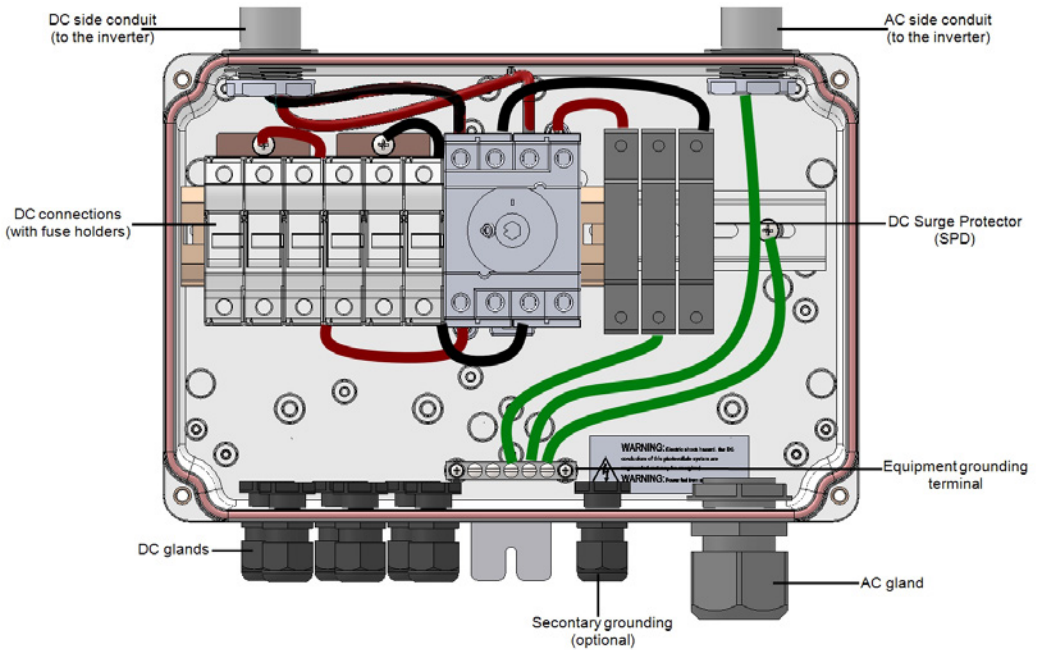

Figure 31: Inside the DC Safety Unit with fuses
- Open the AC cable gland and insert the cable through the gland (see *Figure 31*).